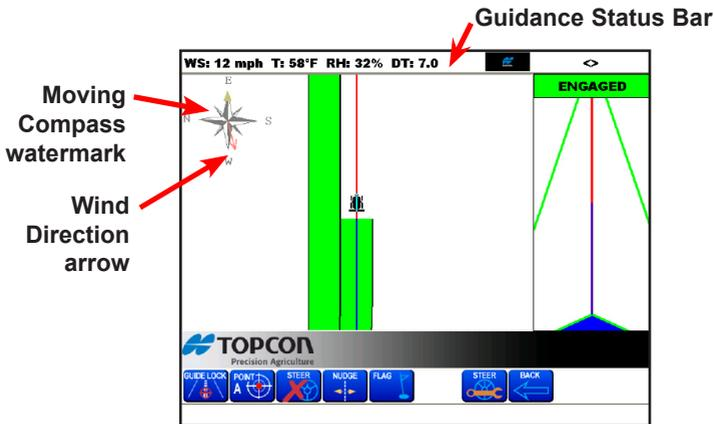

Figure 10-1. Weather Station Data
1. Press the **Guidance Status Bar** until the Weather Station data is displayed (Figure 10-1).